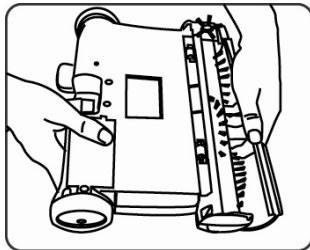

Fig. 12
4. Periodically remove the transparent brush cover on the front of the cordless sweeper and remove any build up of lint, hair or fiber on the rotating brush. To remove the cover - grip the cover from the bottom, pull out and upward until the cover unlocks from the side slots and tabs located on the top of the sweeper. Carefully cut away threads or hair with scissors. (Fig. 12)